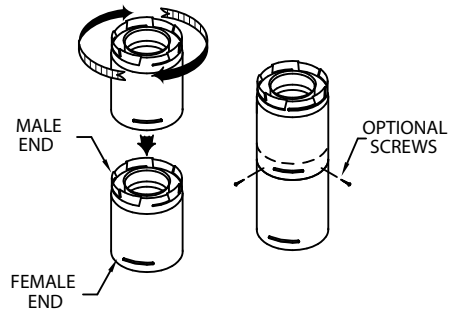
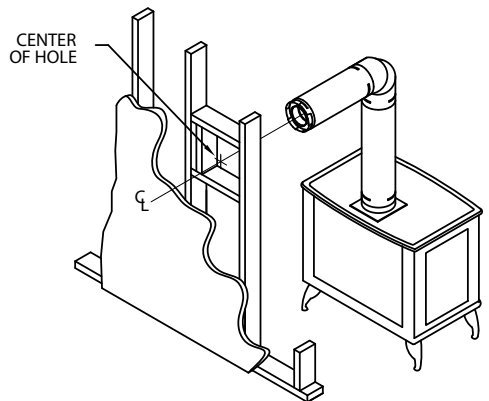

Figure 5
Figure 6
(1) Twist-lock procedure: Line up locking lugs on male and female ends of pipe sections. Insert the male end of pipe into the female end until the locking lugs are covered. Twist the female end clockwise an eighth of a turn to lock sections together (**Fig. 5**). Screws are not required to secure the joint, but are acceptable provided they do not penetrate the inner wall of the vent pipe.
(2) Horizontal runs of vent pipe must be supported to prevent any downward sags. Horizontal pipe sections should be supported at least every 4-feet. Wall Straps can be used for this purpose. Alternatively, plumbers tape or other suitable noncombustible material can be used to support the vent pipe.
(3) DirectVent Pro venting requires no sealant, unless specifically required by appliance manufacturer.
Step 3. With the Appliance Adaptor and Pipe Section attached to the appliance, slide the appliance into its correct location, and mark the wall for a square hole of the appropriate size. Refer to **Table 1, page 8** for the correct size square opening unless otherwise specified by the appliance manufacturer's clearance requirements. The centerline of the pipe should line up with the center of the square hole (**Fig. 6**). Cut and frame the square hole in the exterior wall where the vent will be terminated. A Wall Thimble or